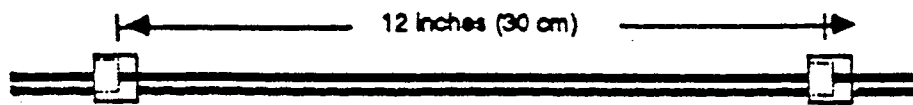

Figure 4-16. Interior Cable Installation
2. Starting at the end nearest the junction device, use self-adhesive clips (model 2368) to attach the cable to the structure in the preplanned pattern. Place the clips about 12 inches (30 cm.) apart. The cable should be tight, but not under any tension (see Figure 4-16). Instead of mounting the sensor cable directly on the wall, the cable can be run through PVC conduit and the conduit can be attached to the surface. Framework within the wall can be used to attach the conduit.